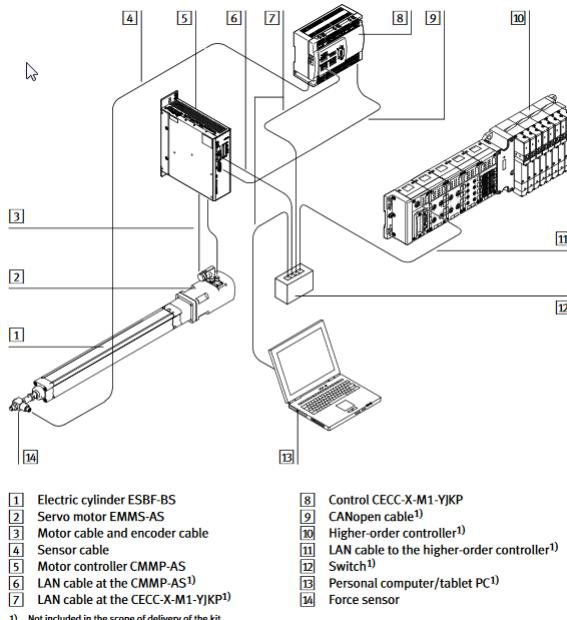

Figure 4-10: Connection overview
- The servo press kit must be connected like in the shown Figure 4-10: Connection overview.